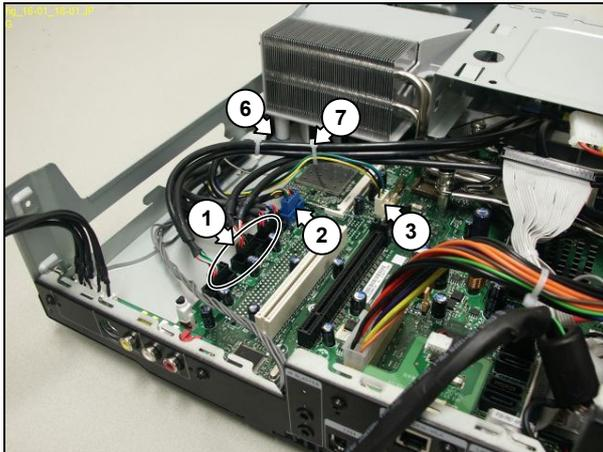

Figure 12.14-1
6. Disconnect the 3 USB cables (1) from the motherboard. See Figure 12.14-1.
7. Disconnect the 1394 cable (2) from the motherboard. See Figure 12.14-1.
8. Disconnect the CPU fan cable (3) from the motherboard. See Figure 12.14-1.
Note: Make sure that the CPU heat sink duct is correctly seated on the chassis locating point (6). See Figure 12.14-1.
2. Remove the cable tie (7) from the CPU fan cable. See Figure 12.14-1.